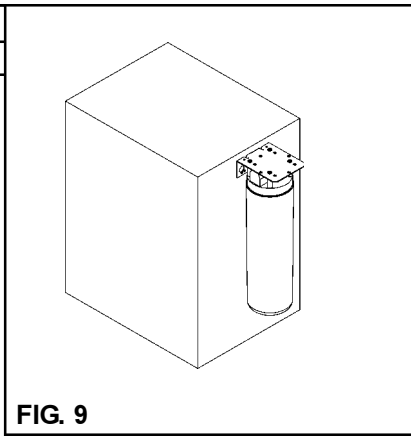

FIG. 9
**LNFE MODEL:** Mount filter head assembly to side of chiller (See Figure 9). Make connection between filter and building supply line (3/8" O.D. tube not provided). Inlet port is marked on the chiller (1/4" O.D. copper tube). Install a 1/4" x 1/4" union (provided). Bend the copper tube (provided) at an appropriate length from the filter and connect to the union on the chiller. (See Figures 8 or 11).
5. **Install** the fountain. Remove access cover plate on underside of fountains and save the screws. Mount the fountain to the upper panel and the wall frame with (4) 5/16" x 3/4" (19mm) long bolts and nuts (provided). Tighten securely.